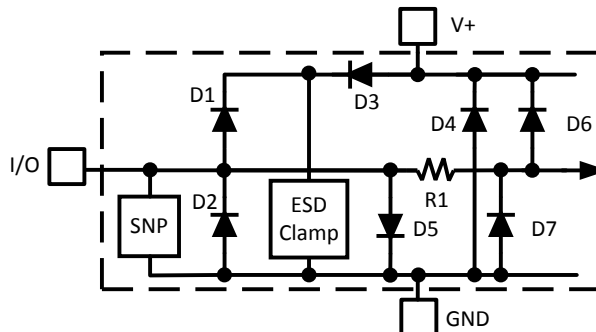

Figure 4. ESD Protection Input Structure
- (1) Absolute Maximum Ratings indicate limits beyond which damage to the device may occur. Operating Ratings indicate conditions for which the device is functional, but do not ensure performance limits. For ensured specifications and test conditions, see the Electrical Characteristics. The ensured specifications apply only for the test conditions listed. Some performance characteristics may degrade when the device is not operated under the listed test conditions.
- (2) All voltages are measured with respect to GND, unless otherwise noted.
- (3) When the input voltage ( $V_{IN}$ ) at any pin exceeds the power supplies ( $V_{IN} < GND$  or  $V_{IN} > V+$ ), the current at that pin should be limited to 5 mA. Parasitic components and/or ESD protection circuitry for the LM63's pins are shown in Figure 4 and Table 1. The nominal breakdown voltage of D3 is 6.5 V. Care should be taken not to forward bias the parasitic diode, D1, present on pins D+ and D-. Doing so by more than 50 mV may corrupt temperature measurements. An "X" means it exists in the circuit.
- (4) Thermal resistance junction-to-ambient when attached to a printed circuit board with 2 oz. foil is 168°C/W.
- (5) Human body model, 100 pF discharged through a 1.5 kΩ resistor. Machine model, 200 pF discharged directly into each pin. See Figure 4 and Table 1 for the ESD Protection Input Structure.
- (6) See the URL <http://www.ti.com/packaging> for other recommendations and methods of soldering surface mount devices.